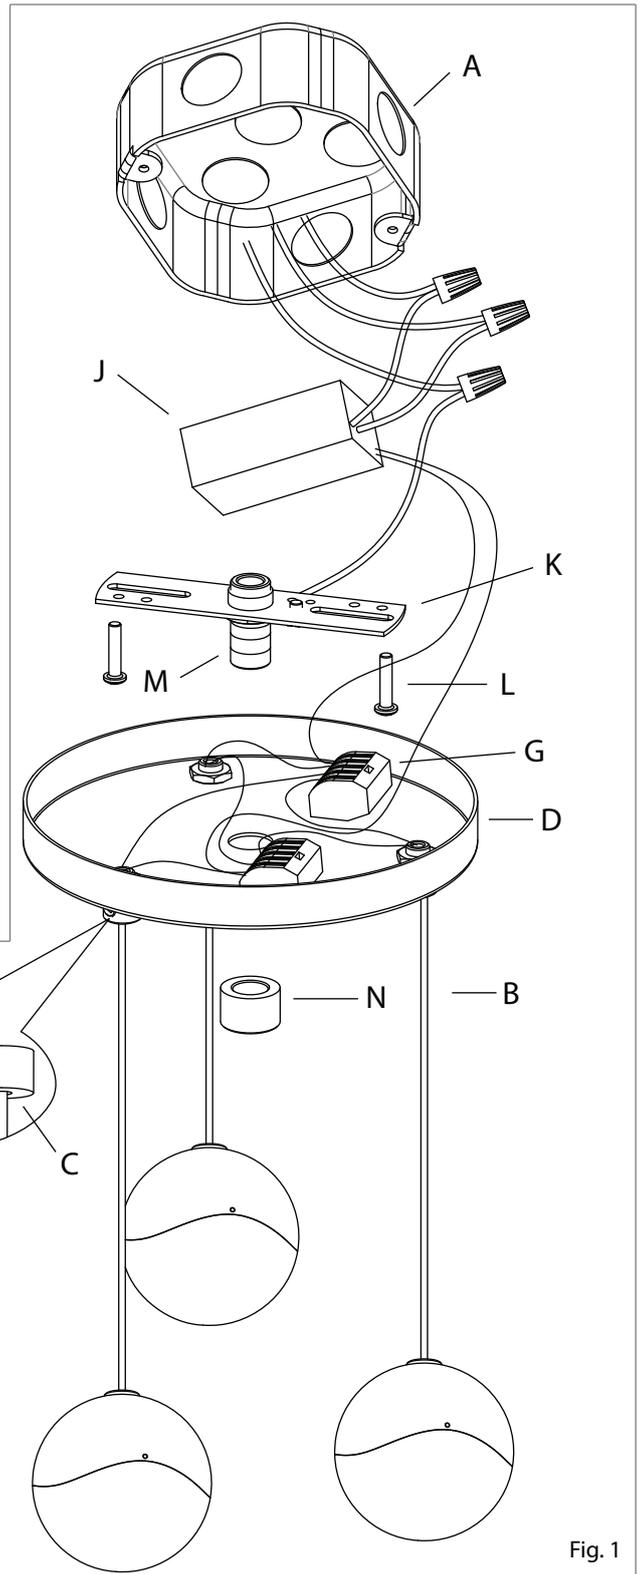

Fig. 2
1. Shut off power to the outlet box. (A)
2. Feed the power cords (B) through the bushings (C) on canopy (D).
3. Determine the height at which the fixture is to be hung. Use the screwdriver (E) to loosen the set screw (F). Adjust the cord (B) to the desired length. Tighten the set screws to set.
4. Connect the fixture wires to the lever nuts (G) by pulling up on the lever for an empty slot (Fig. 2), inserting the wire, and pushing the lever back down to lock. The white inner conductor (H) and black outer conductor (I) on each cord (B) must be connected to separate lever nuts, as shown (Fig. 3).
- a. Connect the transformer (J)'s live wire (black) to the live outlet box wire.
- d. Carefully place connections and transformer (J) in outlet box (A).
6. Reserve extra cords (B) and lever nuts (G) in canopy (D).
7. Attach cross bar (K) to the outlet box (A), secure with outlet box screws (L).
8. Attach canopy (D) to nipple (M), secure with finial (N).